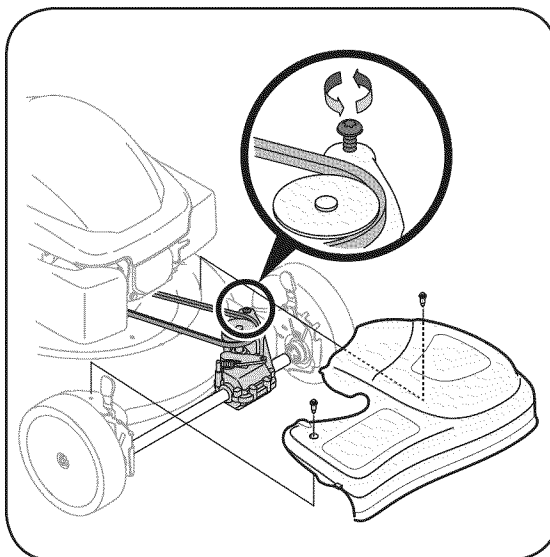

Figure 5-4: Remove cover and loosen transmission screw.
1. Remove two shoulder screws securing front drive cover to mower deck. Refer to Figure 5-4. Press inward on sides of front drive cover and release tabs that secure it to the height adjuster brackets. Remove drive cover from mower.
2. Loosen screw holding belt tension spring to transmission. See Figure 5-4. Do not remove screw completely. As you loosen it, tension on the belt will be released.